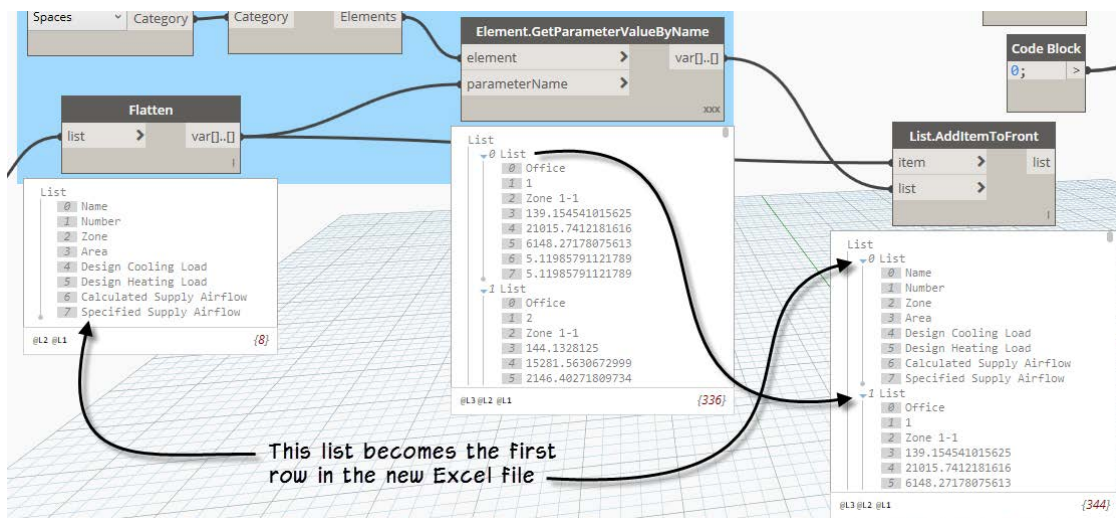

Figure 65
30. Expand the Preview Bubble and run the graph (see Figure 65).